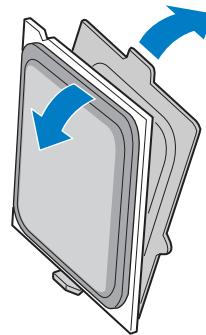

Figure 7. Removing Protective Processor Cover
7. Take the processor out of the box and remove the protective shipping cover (see Figure 7).